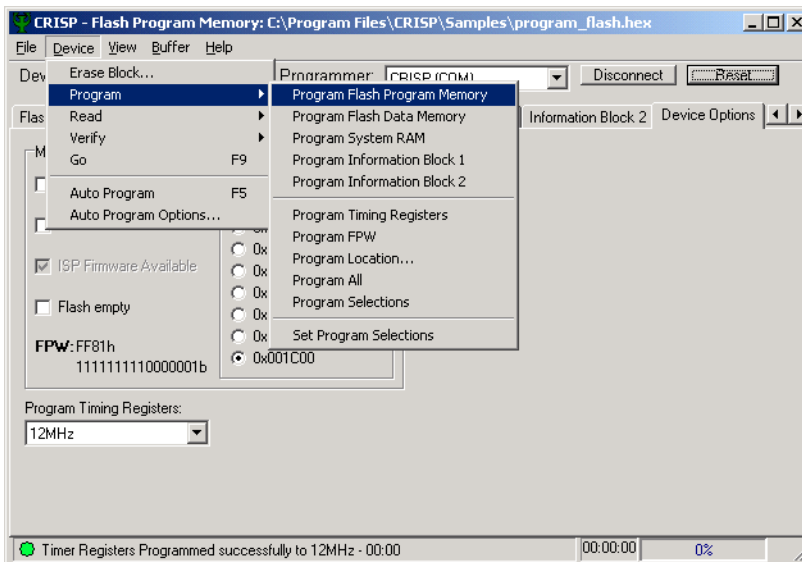

Figure 5-9. Selecting the Program Flash Program Memory Command
1. **Initiate the Download.** Select the Device -> Program -> Program Flash Program Memory command, as shown in Figure 5-9.